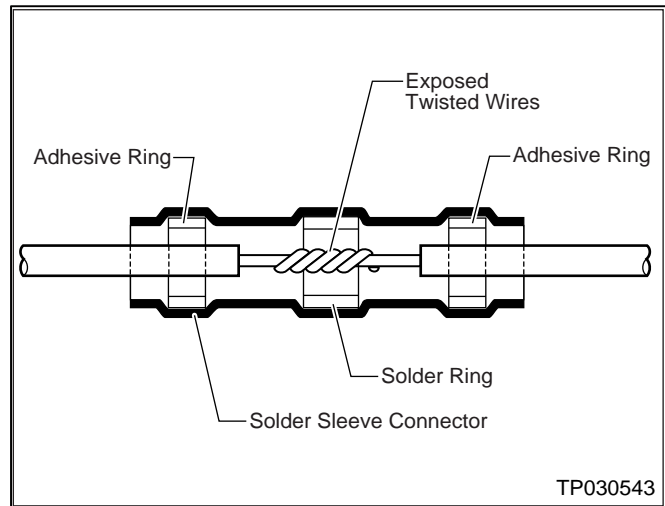

Figure 13
16. Position the Solder Sleeve Connector so that the solder ring (in the connector) is centered around the exposed twisted wire area (see Figure 13).